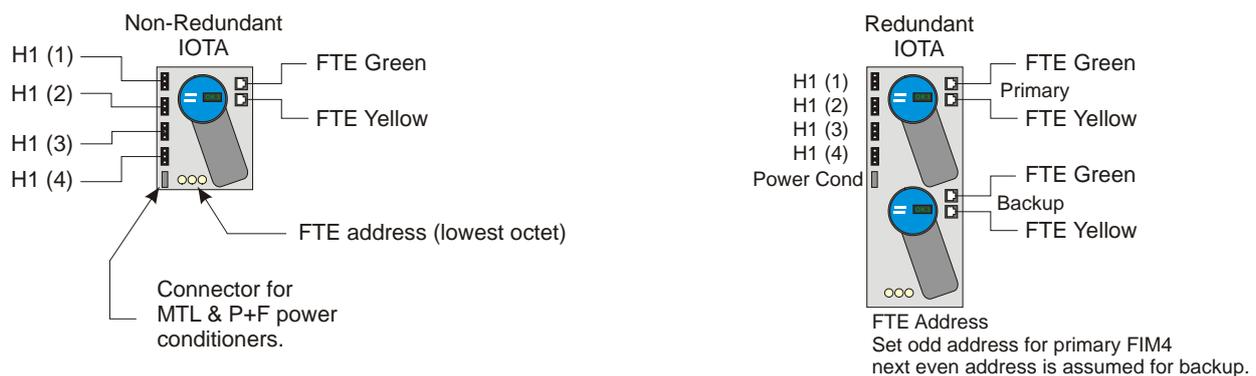

Figure 3: Series C FIM4 IOTA types and configurations (redundant and non-redundant)
The **FIM4** module is provided in the Series-C form factor. As Figure 3 shows it can be mounted to a non-redundant or redundant IOTA. The non-redundant IOTA is 6 inches long, while the redundant IOTA consumes 12 inches of channel space. The user can implement the FIM4 as a non-redundant module by using the non-redundant IOTA, or by mounting only one FIM4 (upper position) to a redundant IOTA. You can add a second FIM4 later if redundancy is needed.
Figure 3 also shows the various connection points. Note that 24 Vdc (to power the modules) is provided by mounting the IOTA to the channel and carrier assembly. This 24 Vdc supply is isolated from the 24 Vdc that is provided by the separate power conditioners connected to each of the four H1 networks. Each IOTA provides four H1 connectors (one for each of the H1 networks). There are also redundant FTE (green & yellow) connectors for each FIM4 module. The FIM4 FTE (IP) index address is set using the rotary switches on the IOTA. This represents the last octet of the four octets that make up the complete FTE IP address. A connector is provided for the power conditioners (from Pepperl+Fuchs or MTL) that are provided on Series C IOTAs and mount on the standard Series C channel assemblies. This provides for easier wiring when these conditioners are used. However, you can also implement conditioners from other 3rd party vendors and hard wire the conditioners using standard FF H1 practices. Note that all power conditioners and the H1 network are isolated from the Series C power system.